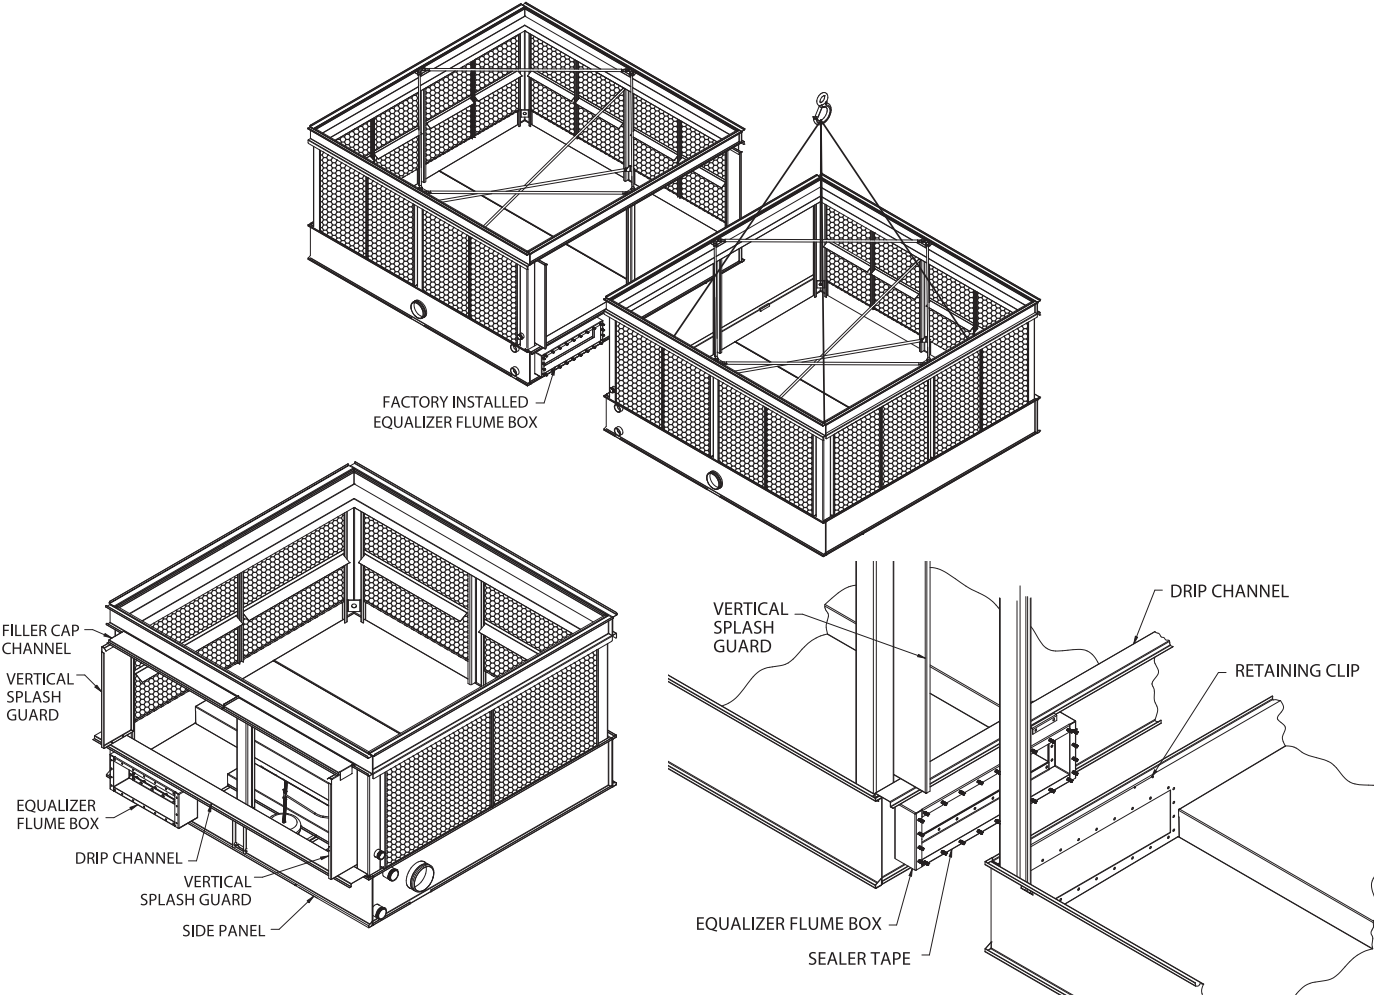

Figure 2 - Joining Bottom Sections – Multi Cell Units
11. Once the bottom of the vertical splash guard has been attached to the drip channel, place the filler cap channel in the upper flanges of the bottom section as shown in Figure 2. Attach to vertical splash guards using 5/16" (8mm) tappers (for galvanized units) or stainless steel nuts and bolts (for stainless steel units).